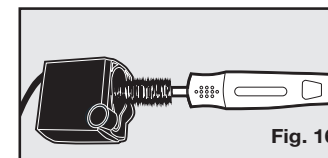

**Fig. 16**
- Once the pump is completely disassembled, you can clean the parts with warm water and soap. Use a cotton swab or the "motor brush" from the Drinkwell® Cleaning Kit to clean inside the pump's motor cavity and remove any build-up (**Fig. 16**). For added disinfecting and hard water removal, clean the pump's motor with a diluted white vinegar solution (20% white vinegar and 80% water).